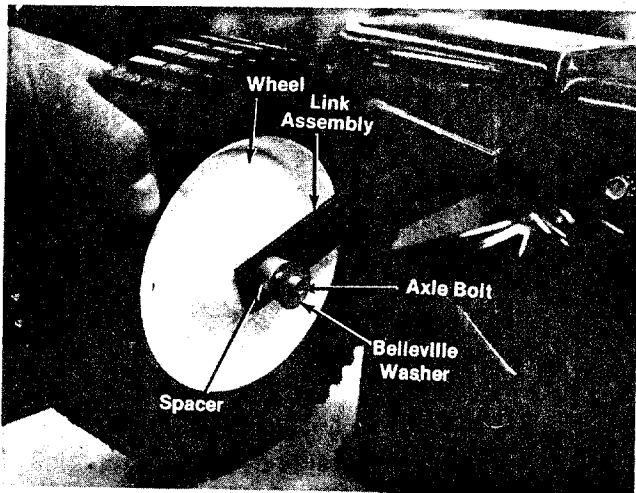

FIGURE 3.
6. Reassemble wheel and axle through link assembly, then place spacer and belleville washer on axle. See figure 3.